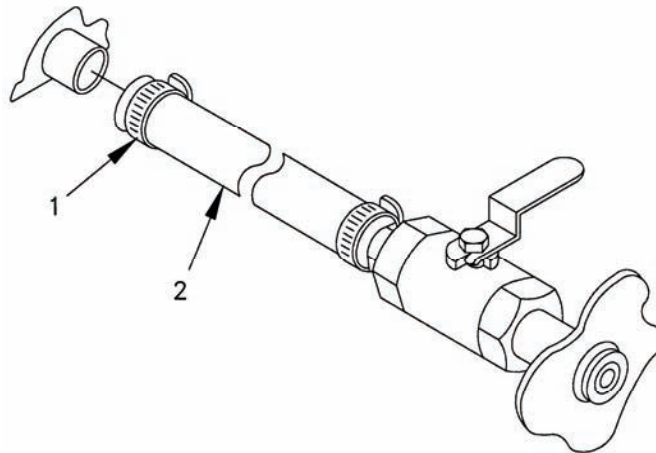

Figure 5-17. Oil Drain Hose.
Loosen clamps (1, Figure 5-17) and disconnect oil drain hose (2) from engine oil pan.